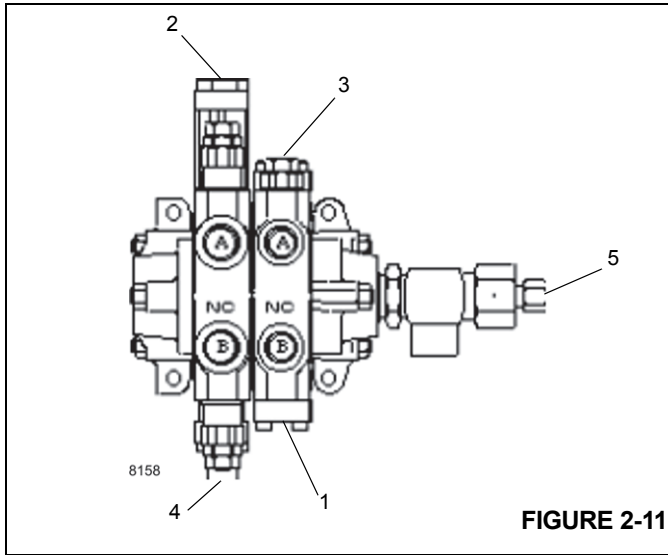

FIGURE 2-11
1. Install pressure check diagnostic quick disconnect with gauge onto test nipple at swing valve inlet test port (5, Figure 2-11).
2. Run the engine at full RPM and steer full right or full left and hold. Check the pressure and adjust the relief valve (3, Figure 2-11) to 172 bar ±4 (2500 psi ±50).